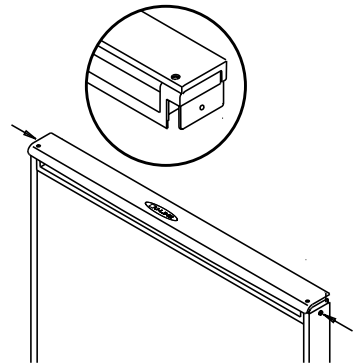

Figure 13
2. Remove the two screws located on both sides of the lower handle. Remove the handle (Figure 13).